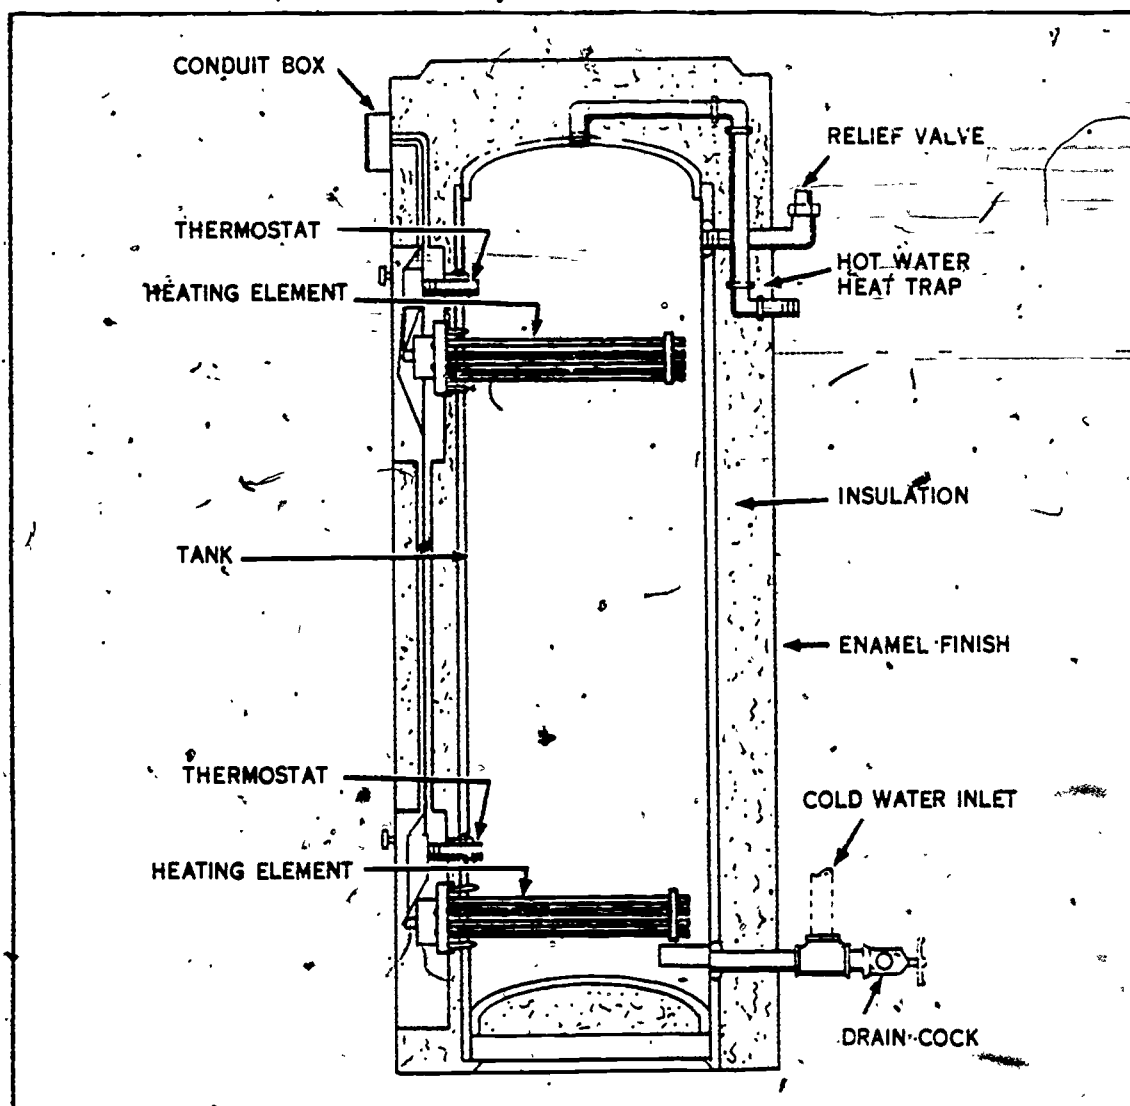

Figure 5-6. Typical construction of an electric water heater.
b. Electric water heater. The electric water heater, shown in figure 5-6, is constructed in a manner similar to the gas water heater. It may be equipped with one or more heating elements. These elements may be located in or around the tank. The electric wiring is made with a special heat-resistant asbestos covering. The temperature of the water is controlled by a thermostat.